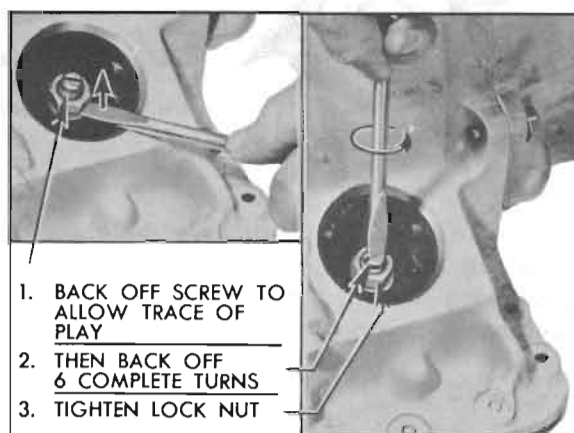

Figure 5-109—Band Adjustment
1. Loosen lock nut and turn adjusting screw clockwise until considerable resistance is felt, indicating that band is in full contact with the drum (low) or ring gear (reverse). See figure 5-109.
2. Back off screw until just a trace of play can be felt by prying up on lock nut with screwdriver. From that point, back off screw six (6) complete turns and snug up the lock nut. See figure 5-109.